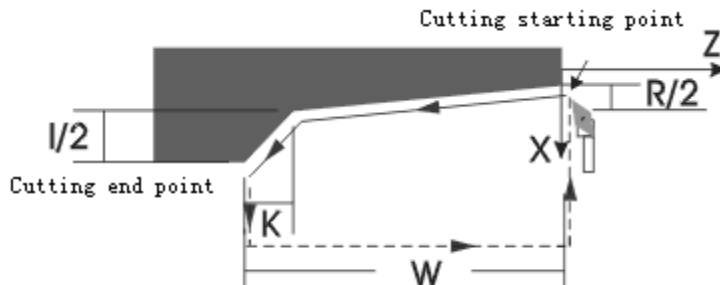

Fig. 4-23
- 2) G92 axial taper thread: as Fig. 4-23, P is positive; the sign of R determines the run-out direction; the sign of I is invalid.